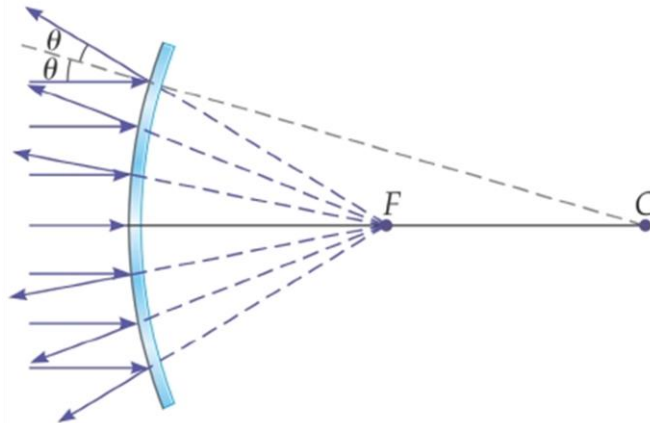

Figure 5
Application of the law of reflection to each of several paraxial rays incident upon a convex mirror is shown in Figure 5. The net result is that the reflected rays diverge, appearing to
3. Position the light source so that the center ray follows the line you just drew. Place the mirror on the paper so that the **convex** side of the mirror faces the ray box. The five rays should reflect outward, as in Figure 5. You will need room to trace these lines back, so make sure there is about 10 cm *behind* your mirror.